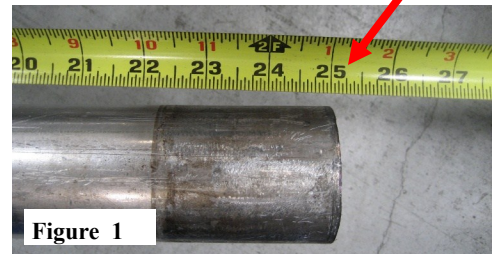

Figure 1
1. From under the vehicle measure 25" from the mid-pipe seam along the right-side mid-pipe and mark the point on the exhaust pipe. Confirm the marks are in correct location and cut the pipe along the marked cut line. Repeat for the left-side mid-pipe. (See Fig.1)